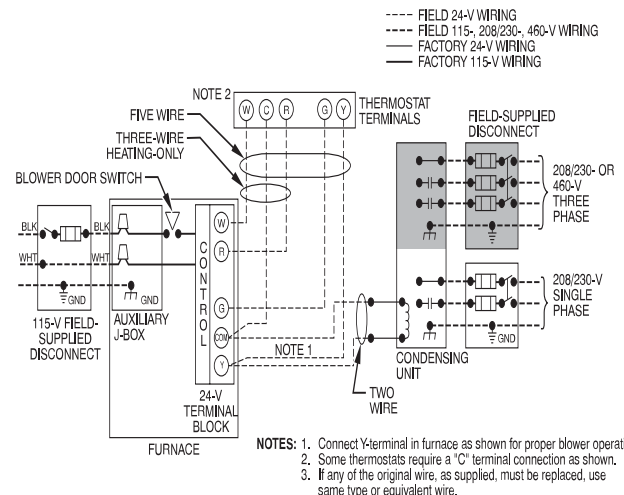

Fig. 24 – Heating and Cooling Application Wiring Diagram with 1-Stage Thermostat
See Fig. 24 for field wiring diagram showing typical field 115-V wiring. Check all factory and field electrical connections for tightness.
- Complete electrical box wiring and installation. Connect line voltage leads (see Fig. 24). Use best practices (NEC in U.S. for wire bushings, strain relief, etc.)
- Connect line voltage leads (see Fig. 24).